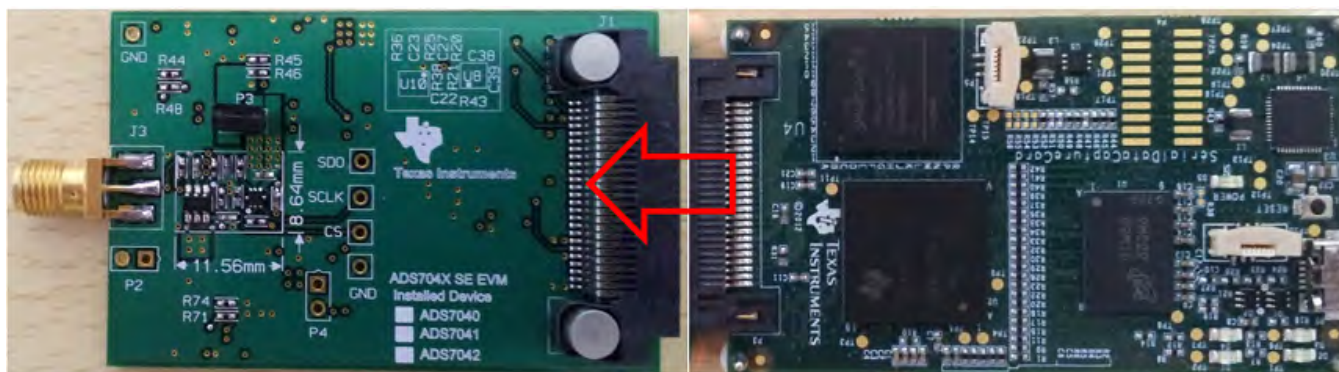

Figure 5. Connecting ADS7042EVM Board to Simple Capture Card
- Step 4. Connect the ADS7042EVM board to the Simple Capture Card as Figure 5 illustrates.